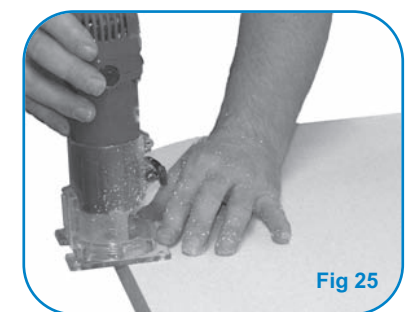

Fig 25
8. Using a laminate cutter with a bottom bearing cutter or trimmer guide, trim to flush top and bottom. Then with a 3mm radius profile cutter trim to match the factory finish (fig 25).